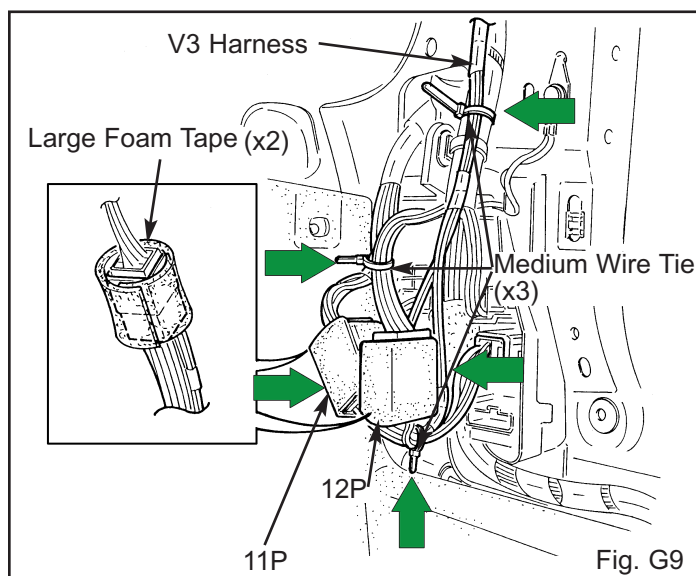

Fig. G9
- ➔ 16. Wrap the white 11P connector with one large strip of foam tape. (Fig. G9)
- ➔ 17. Wrap the white 12P connector with one large strip of foam tape. (Fig. G9)
- ➔ 18. Secure the V3 harness' 11P connector and 12P connector to the vehicle's harness with three medium wire ties. (Fig. G9)